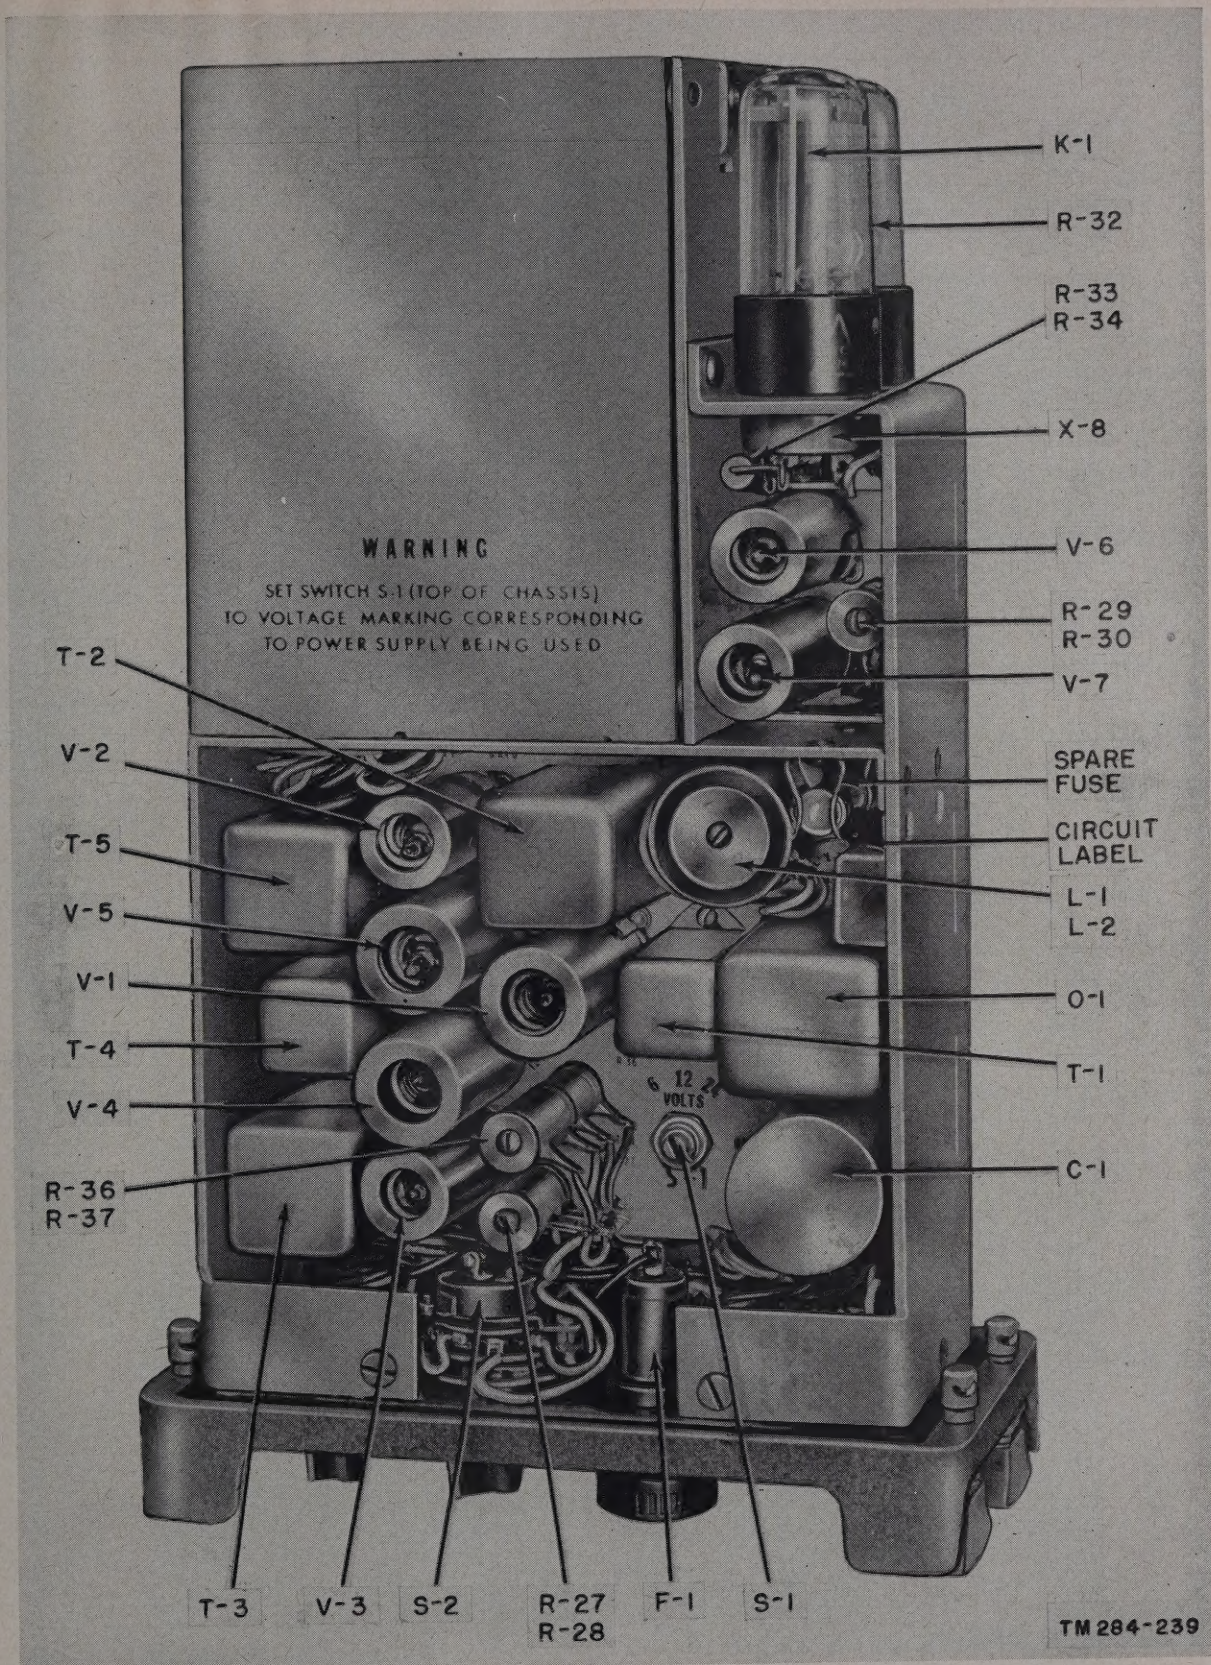

Figure 74. AF Amplifier AM-65/GRC, top view of chassis.
a. Fuse. The panel-mounted fuse is removed by unscrewing the fuse cap, which also serves as a fuse extractor. A spare fuse is located in a fuse clip on the amplifier chassis (fig. 74).
b. Thermal Relay and Ballast Tube. Thermal relay K-1 and ballast tube R-32 are mounted in a horizontal position at the rear of the amplifier chassis (fig. 74). After removing the panel-chassis assembly from the case, remove the relay
Note. Electrolytic capacitor C-1 (fig. 74) also may be removed.
c. Tubes. All tubes are accessible from the top of the chassis when the case has been removed (fig. 74). To remove a tube, first remove the tube shield and then use a tube puller. If a tube puller is not available, pull up the tubes with your fingers, using a straight upward pull. Do not rock or jiggle a tube in its socket. The tubes are damaged easily by careless handling.